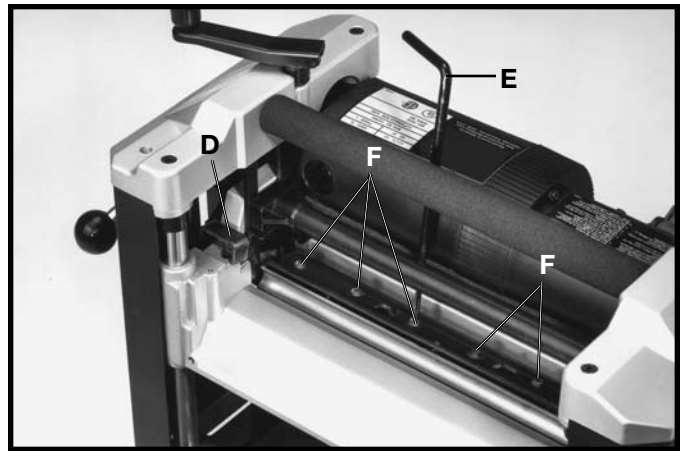

Fig. 30
9. Remove knife transfer tool and tighten the six screws, five of which are shown at (F) Fig. 30, using wrench (E) supplied.